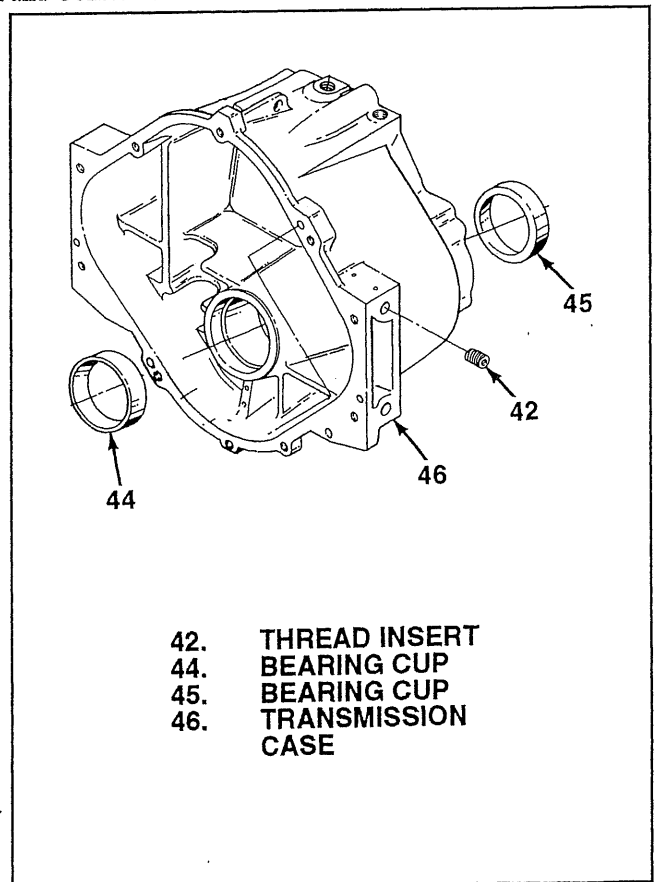

Figure 5-11. Case Assembly
**5-17. CASE ASSEMBLY.** If replaced, assemble case assembly parts as follows (see figure 5-11):
1. If removed, press new bearing cups (44 and 45) in to bottom in case (46) bores. If bearing cones are replaced, the cups (44 and 45) must be replaced also. Care must be taken to support case so that centerline through cup bores is vertical.
2. If removed, install new thread inserts (42) using standard Heli-Coil® installation tools. Install inserts flush to one turn below mounting face of case (46). Follow Heli-Coil® instructions carefully.